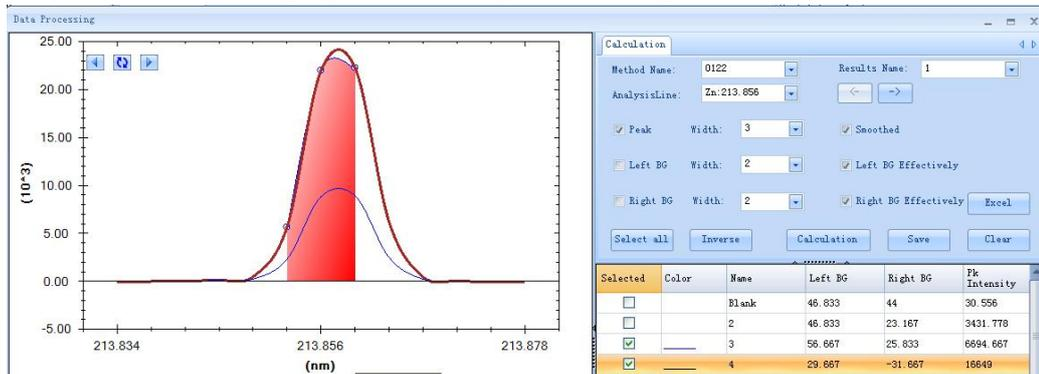

Fig.6.26
1. Peak Settings: Check *Peak*, move the cursor onto the spectrum, setup the left/right peak by clicking at the right position(Figure 6.26);